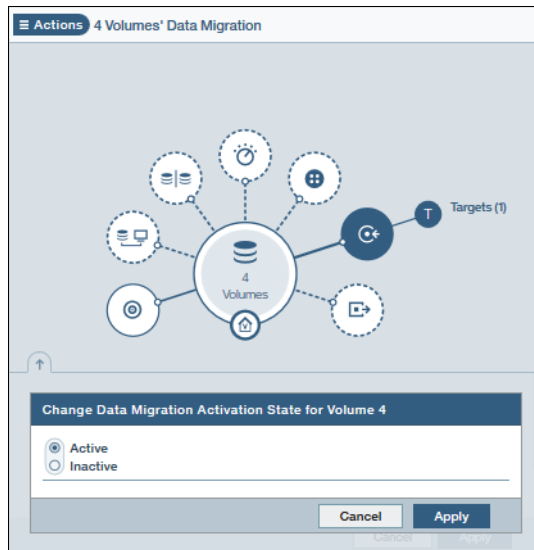

Figure 8-21 Activating migration for the migration volumes
3. Select **Active**, as shown in Figure 8-21.